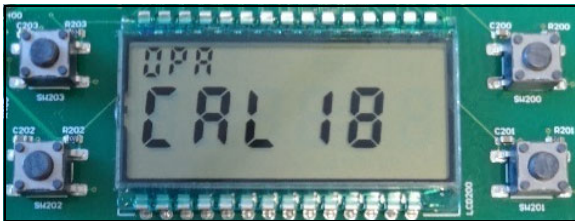

FIGURE 16: LCD Menu - Calibration.
- the calibration menu option (Figure 16),